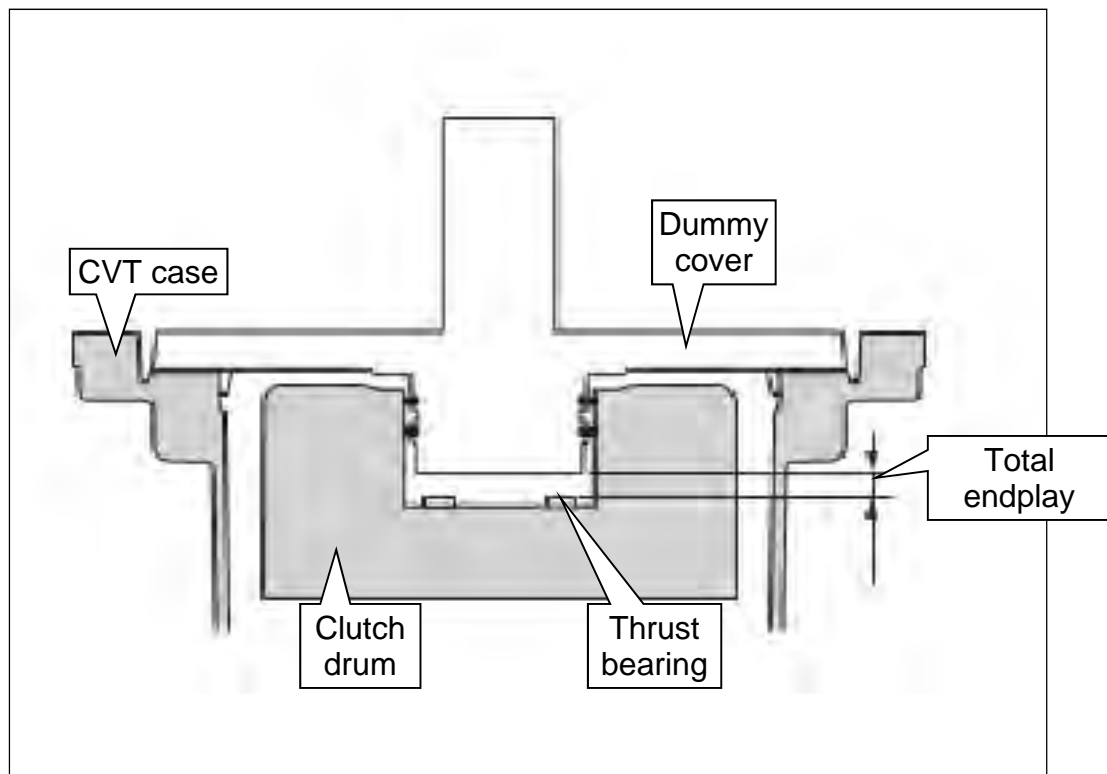

Figure 110
**IMPORTANT:** Using thrust bearings, the clutch total endplay (Figure 110) must always be adjusted between the clutch drum and the dummy cover when a new sub-assembly is installed.